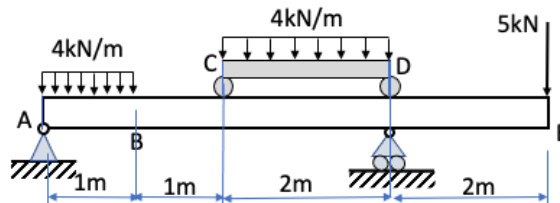

Figure Q5
5. For the structural model shown in Figure Q5, what is the magnitude of the maximum bending moment along section ABC of the lower beam AE.